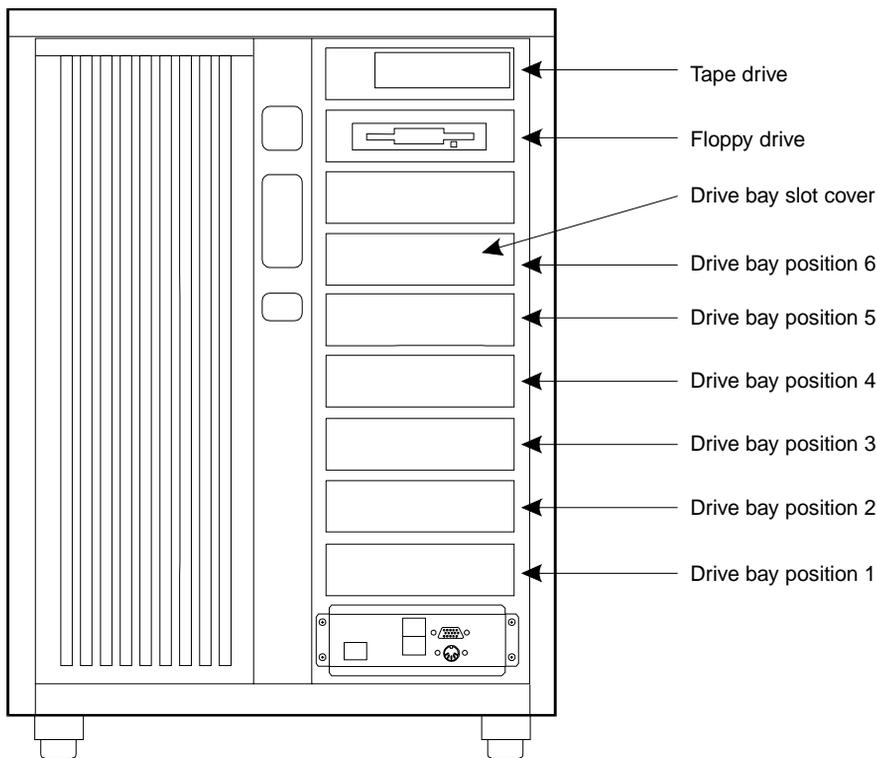

Figure 9-1. Front View of the MAP/100
2. If the system is off, turn it on using the power switch on the front of the MAP/100 (Figure 9-1).